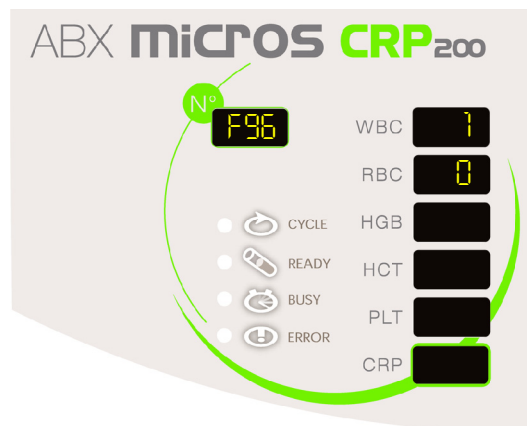

Fig.4: F96 CRP diluent
- ◆ Run F[96] function: Cooler / Heater check (See "Fig.4: F96 CRP diluent, page 3").